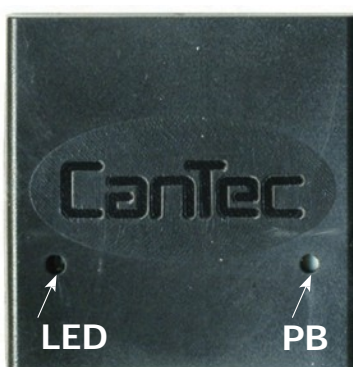

Fig. 2
Programming Button (PB) and LED indicator (LED) located in the unit's body are used for setting the unit. (see Fig.2)